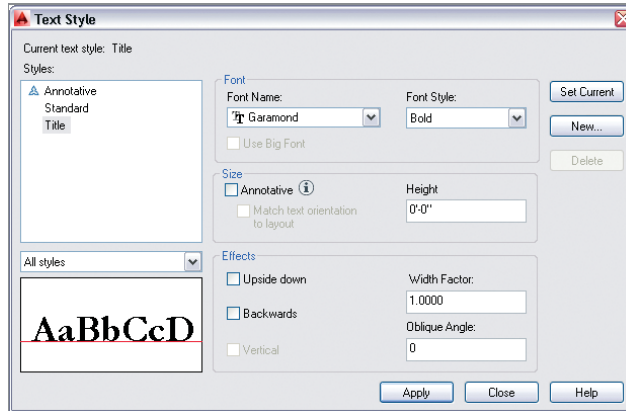

FIGURE 10.2 Configuring the Title style
4. Open the Font Name drop-down and select Garamond. The symbol next to the font name indicates this is a TrueType font. Set Font Style to Bold, and deselect Annotative (see Figure 10.2). Click the Apply button.